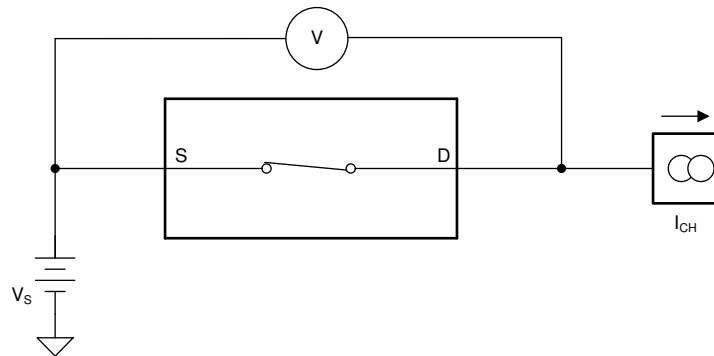

図 8-1. On-Resistance Measurement Setup
The on-resistance of the TMUX6121, TMUX6122, and TMUX6123 is the ohmic resistance across the source (Sx) and drain (D) pins of the device. The on-resistance varies with input voltage and supply voltage. The symbol R_{ON} is used to denote on-resistance. The measurement setup used to measure R_{ON} is shown in 図 8-1. Voltage (V) and current (I_{CH}) are measured using this setup, and R_{ON} is computed as shown in 式 1: